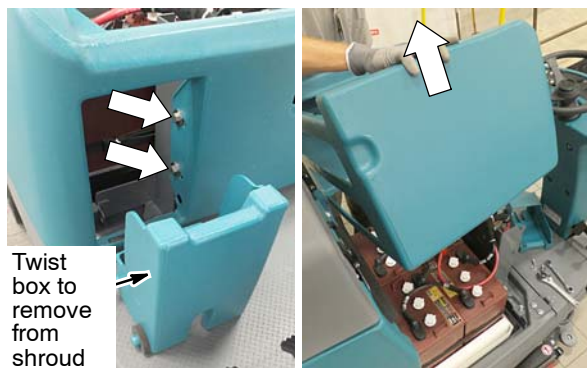

Fig. 2
6. Remove the small box from the battery compartment shroud to access the two mounting screws that secures shroud. Remove screws and lift battery compartment shroud from machine (Figure 2).